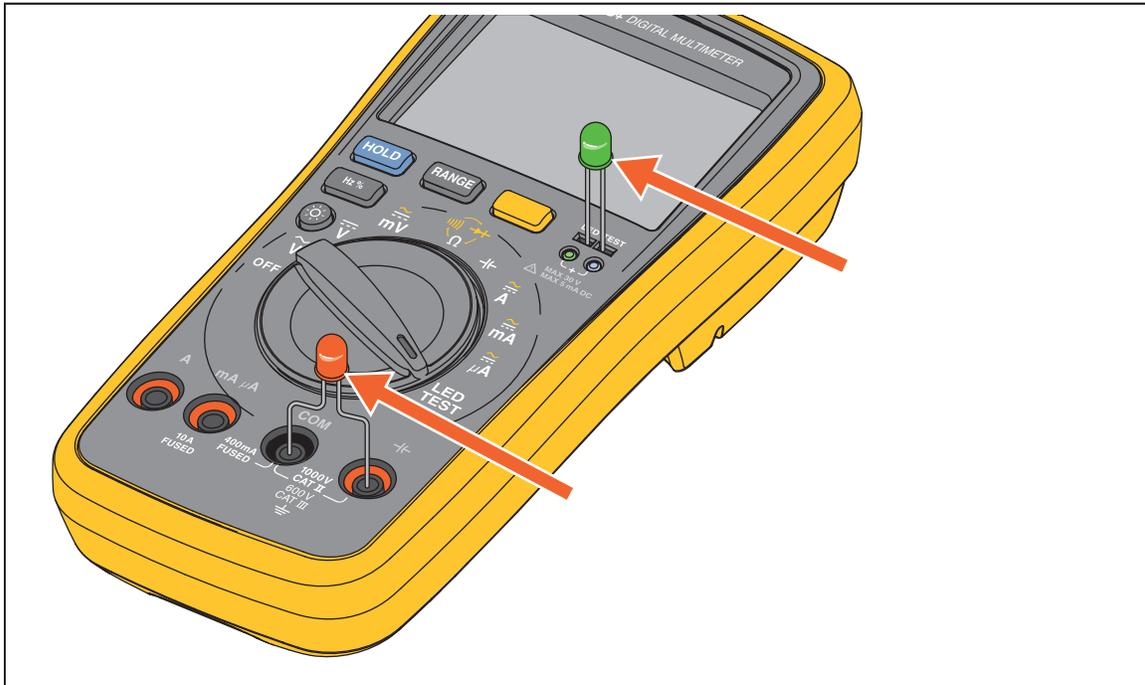

Figure 2. LED Test
5. For the LED test, put the LEDs as shown in Figure 2. The test passes if the LED lights.